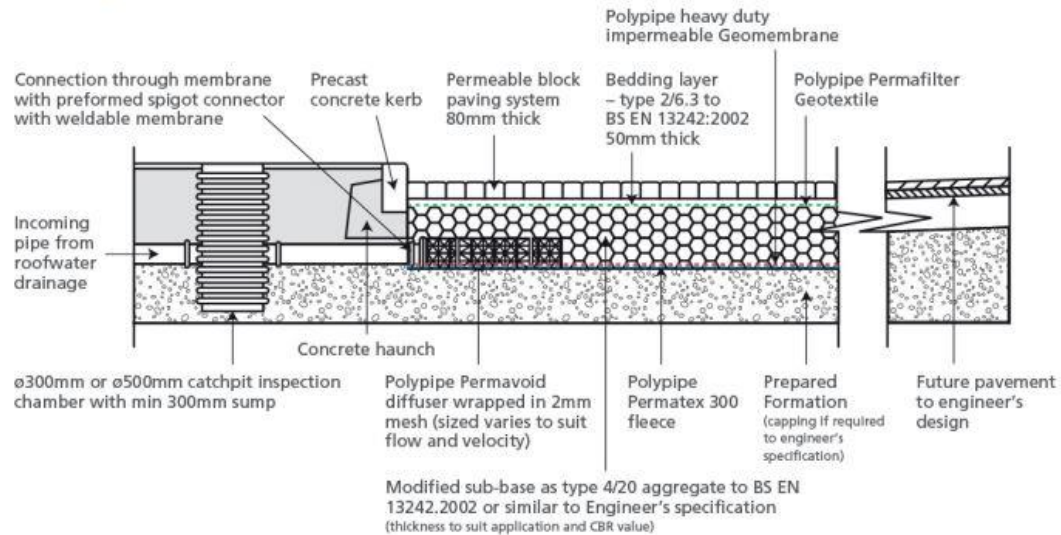

Fig. 7
- 5.16 It is proposed that surface water from the electric vehicle parking bays will discharge via permeable asphalt/paving with a restriction of 1l/s, via a Hydro-brake, prior to discharging into existing on-site surface water drain. The canopies over will pass through the parking sub-base. See Fig. 7 below for typical detail.